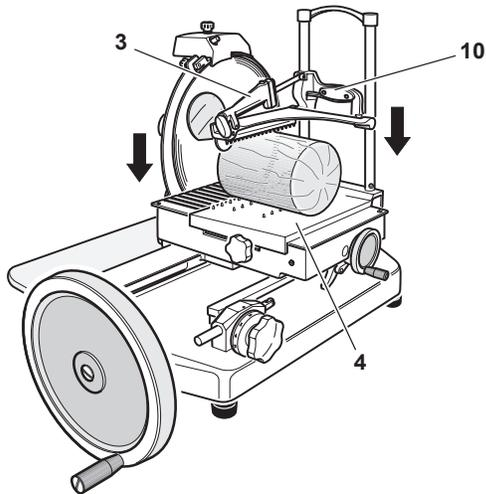

Figure 12-1
- Position the food product to be sliced on the product holder (4).
- Use the pusher vertical slide lever (10) to adjust the pusher (3) to hold product in place (Figure 12-1).